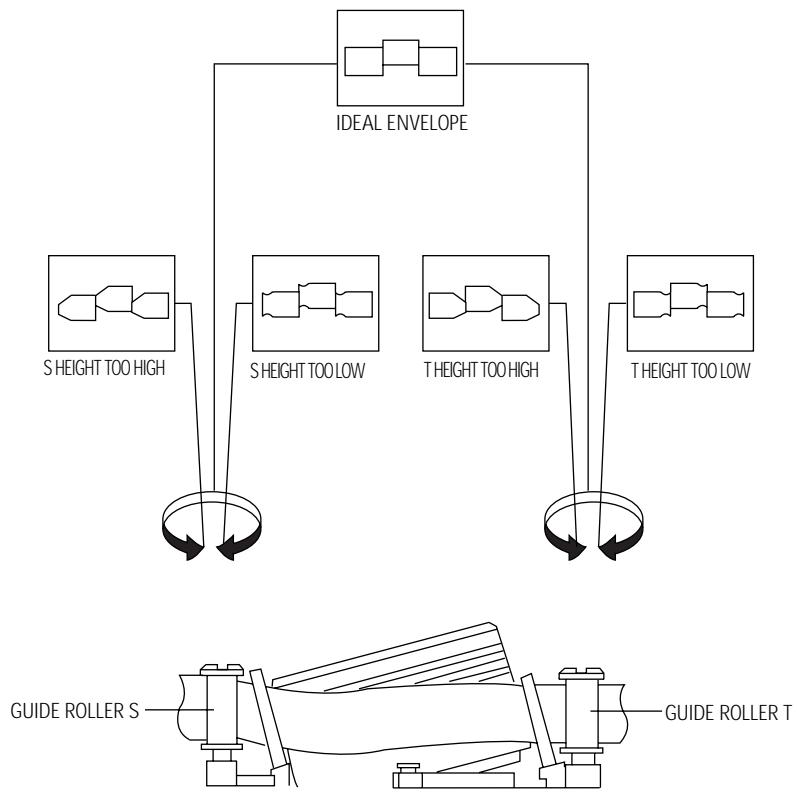

Fig. 4-13 Guide Roller S, T Height Adjustment
- 8) Turn the guide roller heads with a flat head (■) driver to obtain a flat video RF envelope as shown in Fig. 4-13.